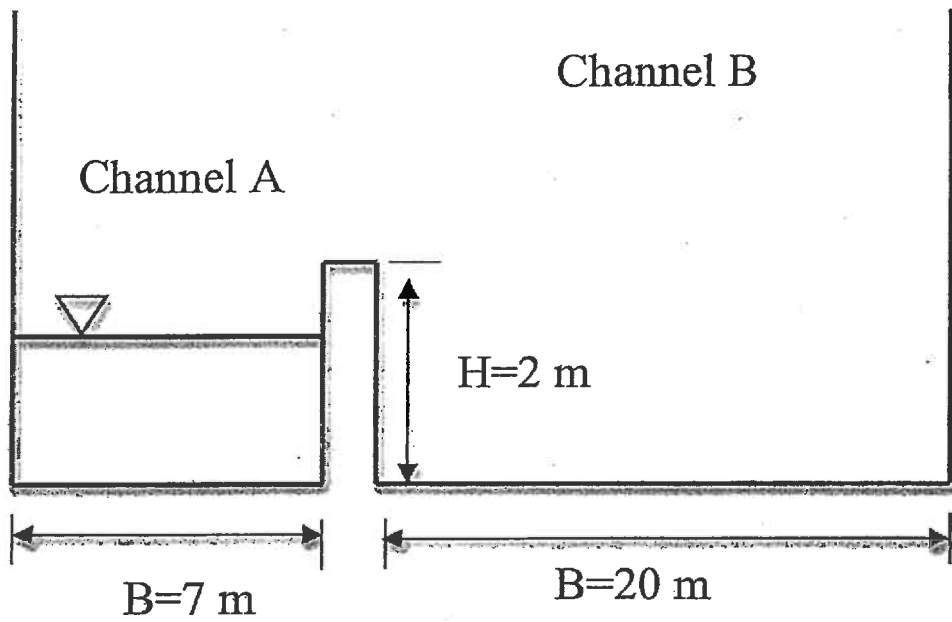

Figure 3. Flood protection system.
6. The cross section of a flood protection system is shown in Figure 3. The flood protection system is comprised of Channels A and B. Channel A is designed to carry minor storm flows. When channel A is full, the surplus water from Channel A spills onto Channel B. The longitudinal slope of both channels is 0.001 and Manning's 'n' for both channels is 0.013.